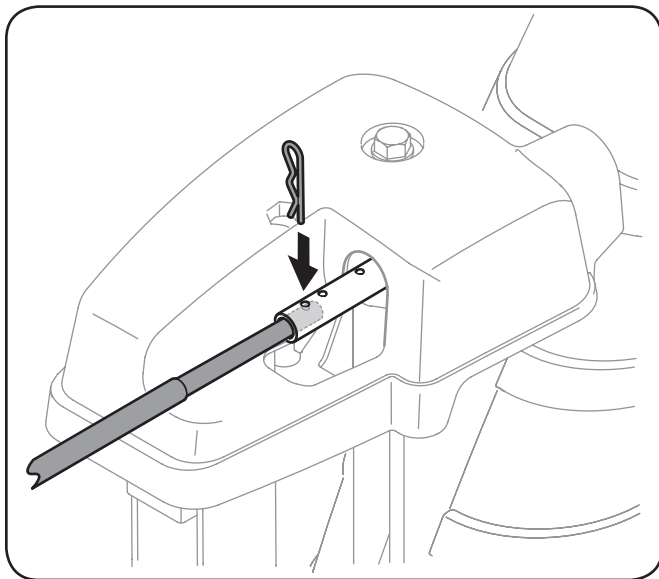

Figure 6-6
2. Pull out the chute control rod until the hole in it lines up with the hole furthest from the chute assembly on the chute rotation assembly. See Figure 6-6.
3. Reinsert the cotter pin through this hole and the chute control rod. See Figure 6-6.